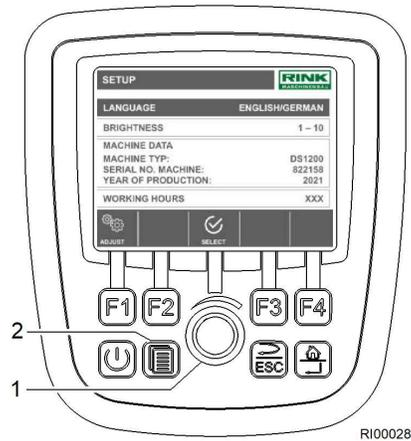

Fig. 45 Menu
1. When the menu button (Fig. 45/2) is pressed, the control menu Menu opens.
2. Select the desired menu item to be set by turning the rotary control (Fig. 45/1).